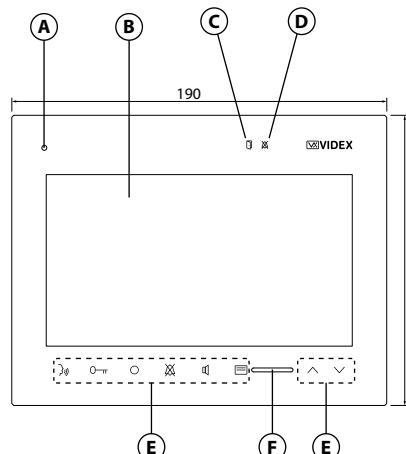

Fig. 1 Fronte
1. To install the videophone, it is necessary to remove the back cover. Apply pressure to the two clips indicated by the grey arrows (**Fig. 1**) using fingers (**Fig. 2**) while lightly pulling the upper part in the direction of the white arrows (**Fig. 3**).